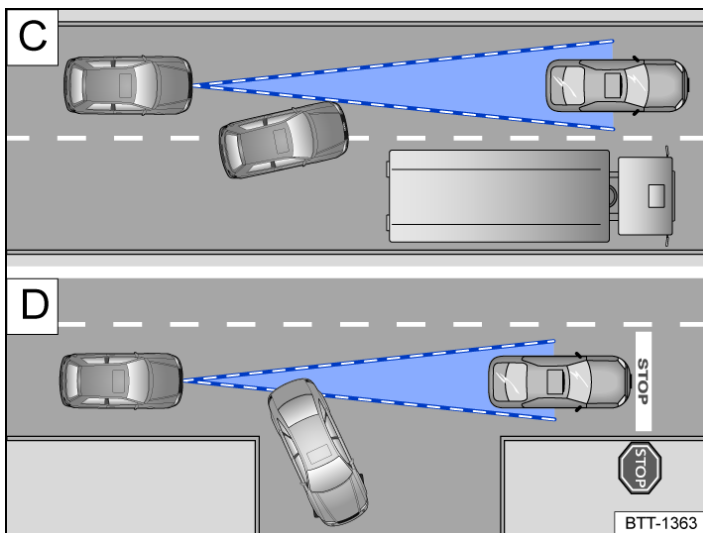

Fig. 2 **C** Vehicle changes lane. **D** Turning and stationary vehicle.
If a stationary vehicle is hidden behind a vehicle that has been detected by the adaptive cruise control and this vehicle turns off the road or changes lane, the ACC will not react to the stationary vehicle → Fig. 2 D.
- Vehicles that change into your lane directly in front of your vehicle → Fig. 2 C.